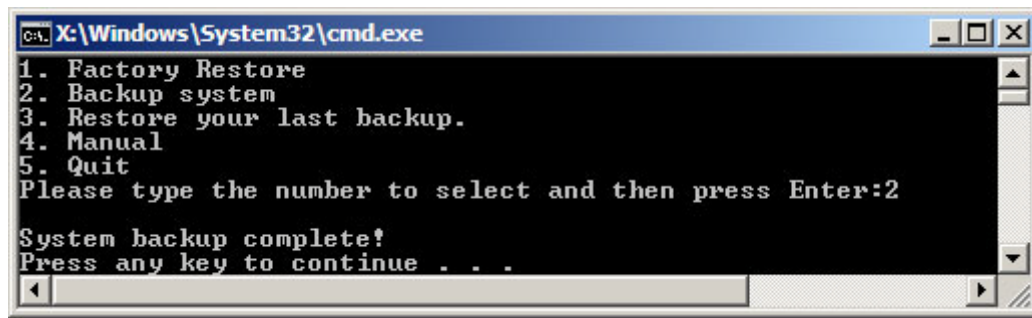

Figure C-37: System Backup Complete Window
Step 3: The screen shown in **Figure C-37** appears when system backup is complete. Press any key to reboot the system.